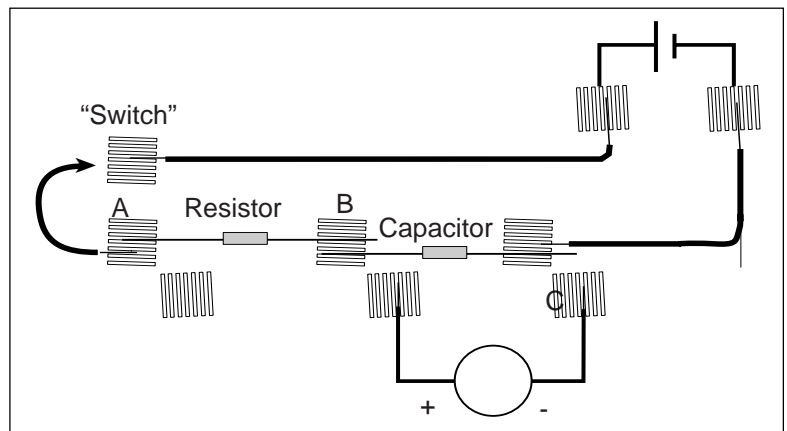

Figure 8.1
- ① Connect the circuit shown in Figure 8.1, using a $100\text{-K}\ \Omega$ resistor and a $100\text{-}\mu\text{F}$ capacitor. Use one of the spring clips from the transistor socket as a “switch” as shown. Connect the VTVM so the black “ground” lead is on the side of the capacitor that connects to the negative terminal of the battery and set it so that it reads to a maximum of 1.5 V DC.